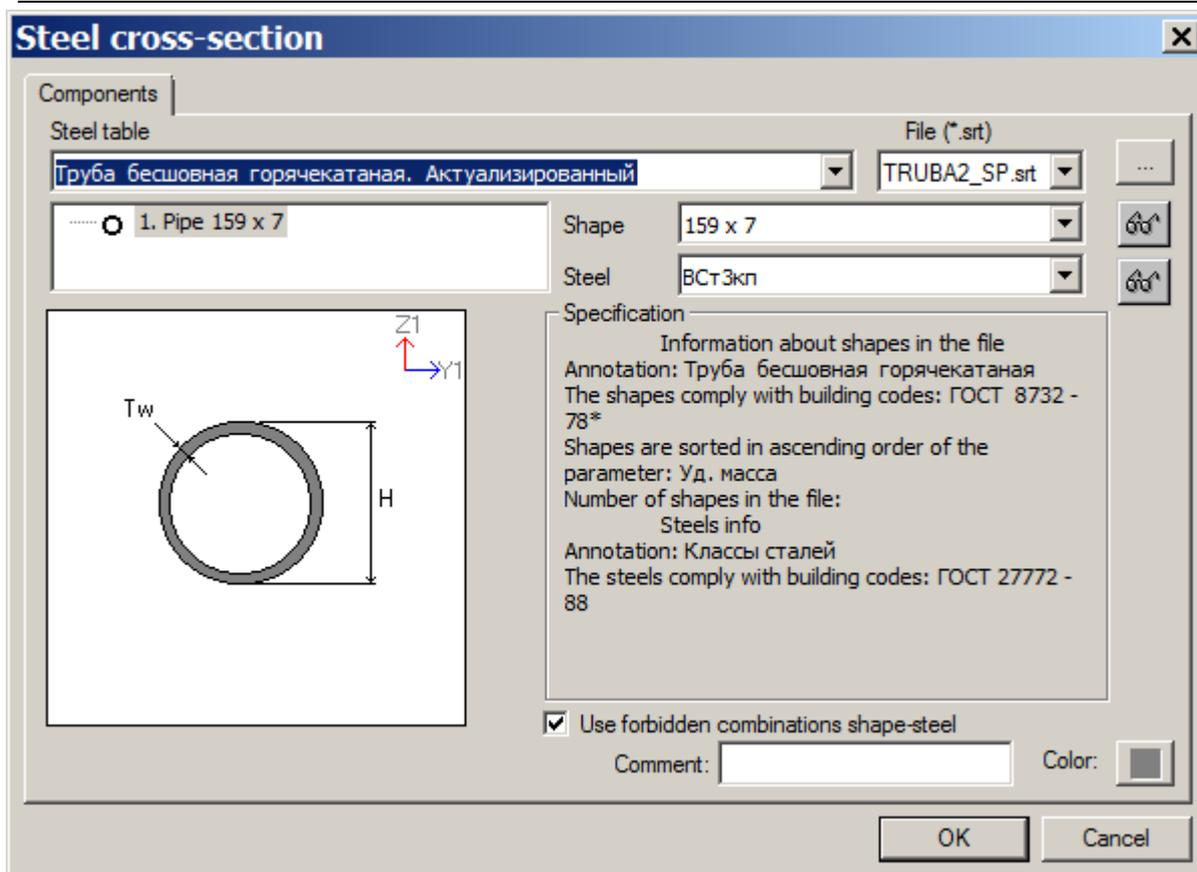
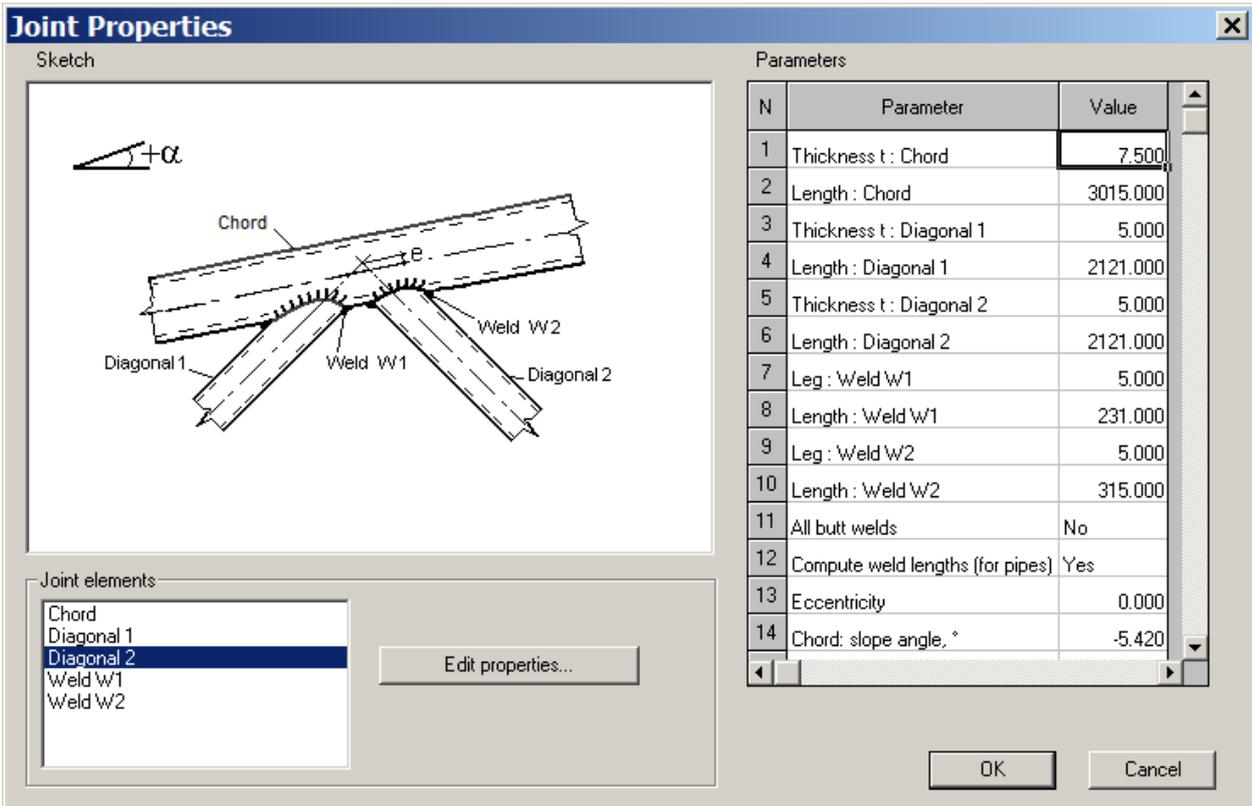
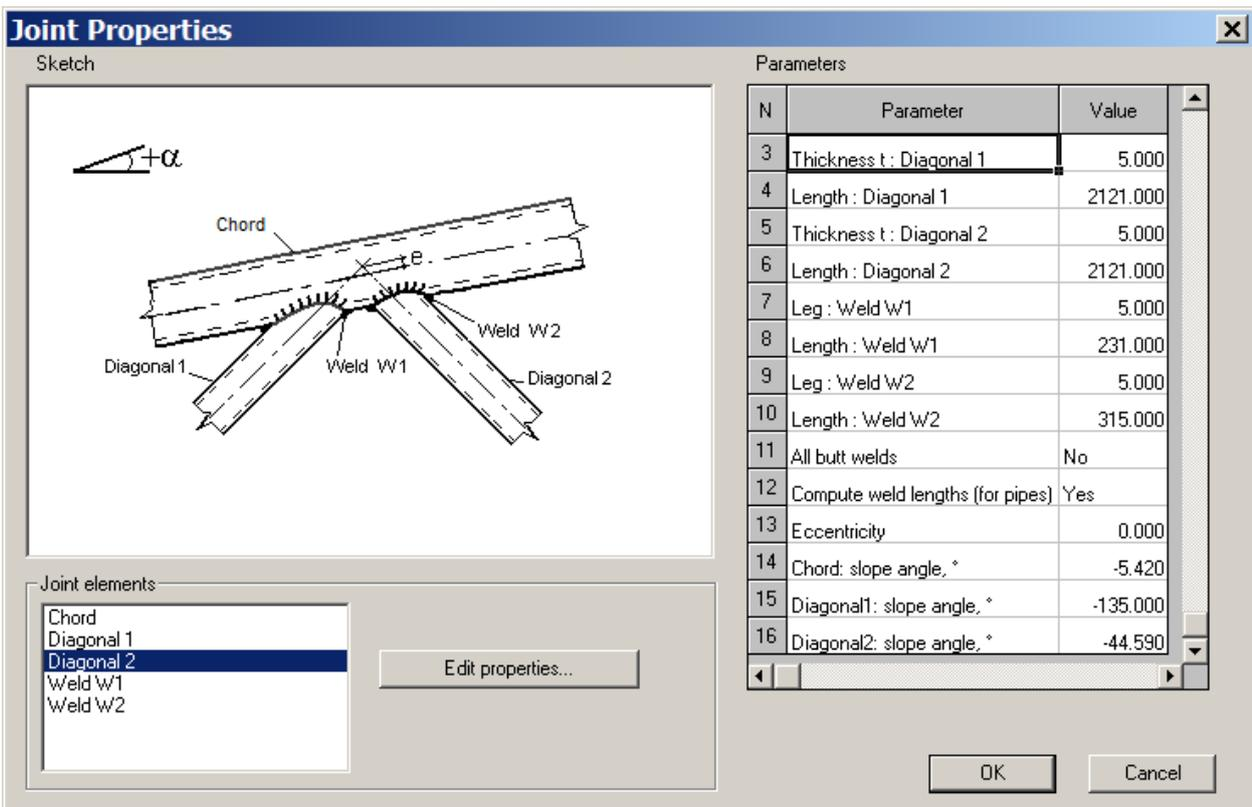

Figure 12.9 Steel cross-section dialog box
Figure 12.10 Joint properties dialog box (lengths)
Figure 12.11 Joint properties dialog box (slope angles)
- ⇒ In the **Steel cross-section** dialog box (see Fig.12.9), define the following parameters for the section:
- ⇒ In the **Joint properties** dialog box (see Fig.12.10 and Fig.12.11), modify length of chord and diagonal elements as well as their slope angles and define the following values:
⇒ It is obvious from analysis results that not all elements are adequate. To provide the bearing capacity of elements, modify their stiffness properties and allow some redistribution of forces in them (see Fig.12.9 and Fig.12.10):